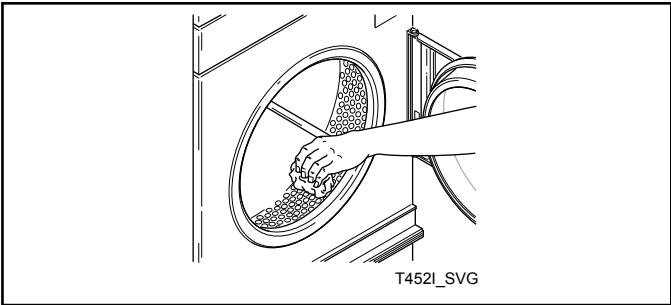

Figure 6
- 10. Wipe out the cylinder using an all-purpose cleaner or detergent and water solution. Refer to *Figure 6*.